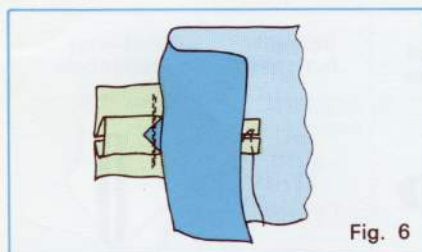

Fig. 6
5. Stitch across pleats formed by lips of patch. (Fig. 6)